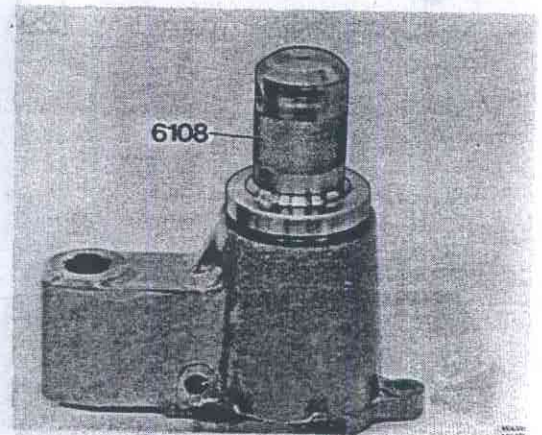

Fig. 43-179. Pressing in seal
5. Fill about a fourth of the space between the sealing lips and the space between the spring on the reverse side of the sealing lip with grease, Fig. 43-178. Press the seal into the housing with 6108, Fig. 43-179.